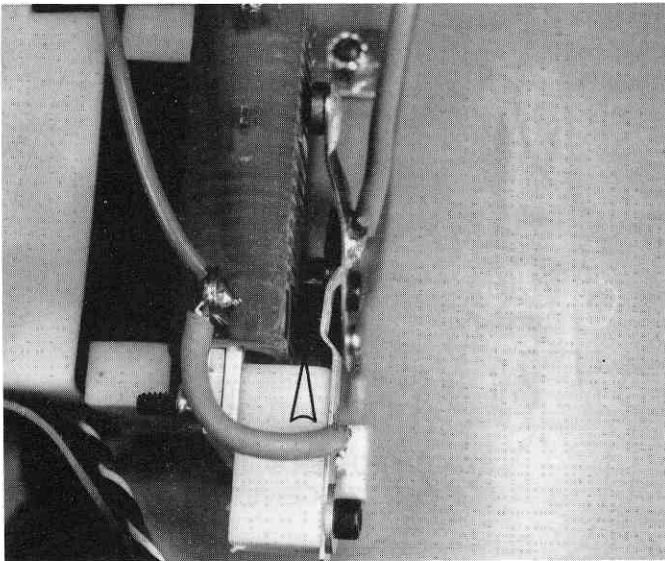

Fig. 138
□ **Fig. 138** The arrow is pointing to the space between the bypass button and the resistor band. This distance should be about .025 (.65mm) less than the thickness of the wiper button section, so that when the wiper arm button moves to full throttle it makes the bypass arm move about .025 (.65mm) forward. This bypass arm then helps to increase the pressure on the throttle wiper arm button, thereby giving it an excellent electrical connection. This, of course, allows the motor to achieve full horsepower and helps the resistor to last longer.